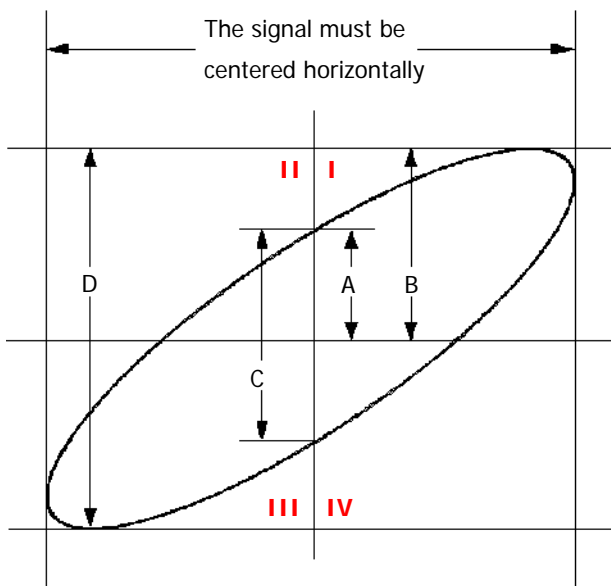

Figure 3-2 Measurement Schematic Diagram of Phase Deviation
4. Observe the measurement result shown in the figure above. According to the measurement schematic diagram of the phase deviation (as shown in Figure 3-2),  $A/B (C/D) = 1$ . Thus, the phase deviation angle  $\theta = \pm \arcsin 1 = 90^\circ$ .